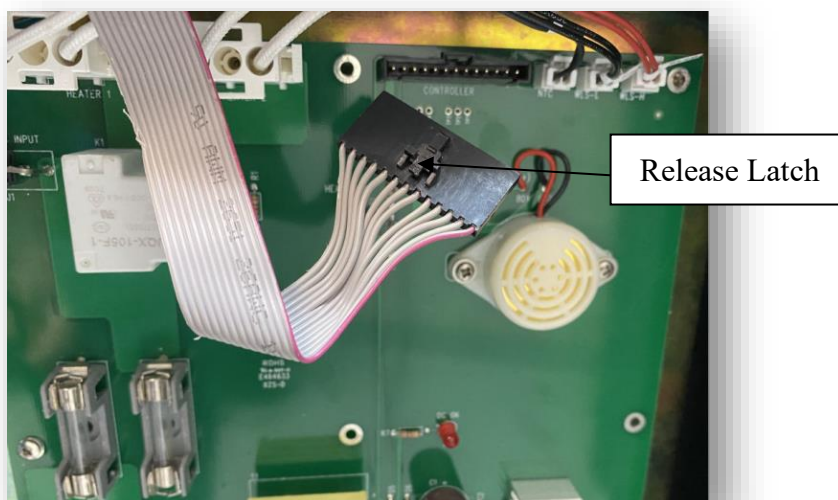

Figure 18 – Re-seat J6 Ribbon Connector
- ii. If the “Pump On” LED is not illuminated, remove power from the SCA. Re-seat (unplug and plug back in) the J6 Display Controller ribbon cable (**See Figure 18**) from the PCB. The latch must be released to remove the connector by pressing a thumb nail on the latch lever and wiggle the connector out of the socket. Ensure the J6 connector snaps in securely when plugging back in. Skip to the next step (Step b).